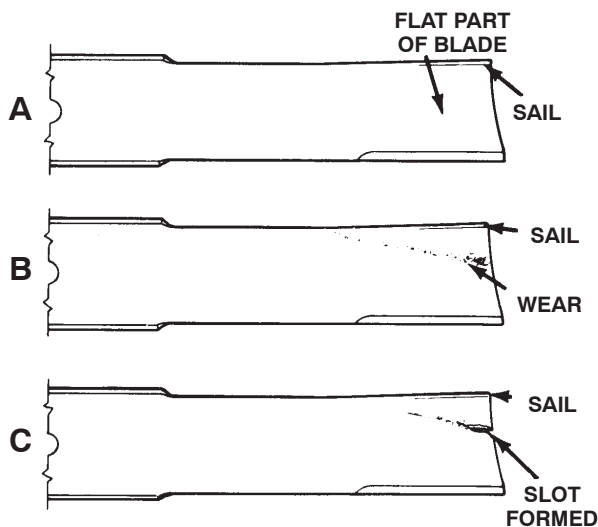

Figure 85
2. Examine the cutting ends of the blade carefully, especially where the flat and curved parts of the blade meet (Fig. 85-A). Since sand and abrasive material can wear away the metal that connects the flat and curved parts of the blade, check the blade before using the mower. If wear is noticed (Fig. 85-B), replace the blade.
If the blade is allowed to wear, a slot will form between the sail and flat part of the blade (Fig. 85-C). Eventually a piece of the blade may break off and be thrown from under the housing, possibly resulting in serious injury to you or bystanders.